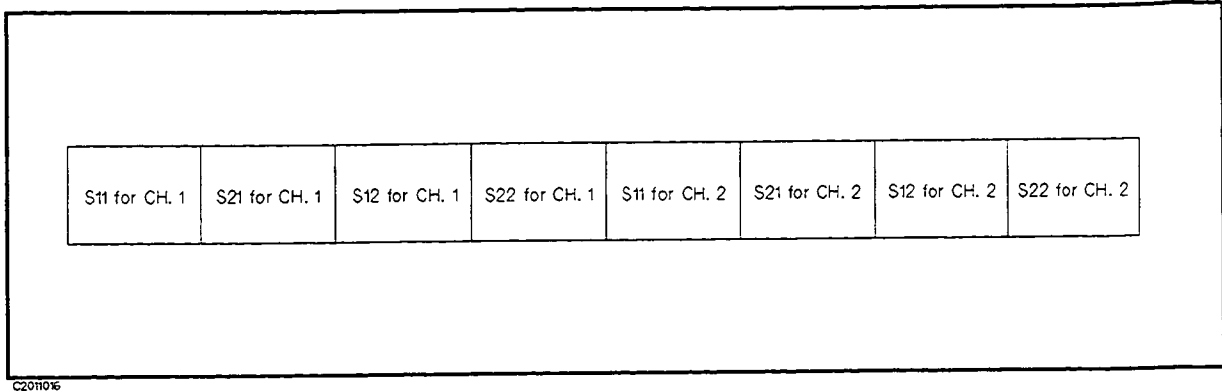

Figure 11-2. RAW Data Group Structure
- *RAW DATA* consists of eight data segments as shown in Figure 11-2. They will follow the file header in this order.